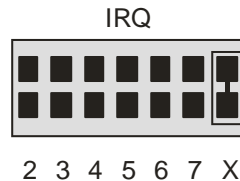

Figure 5. Interrupt level select jumper
In order to take advantage of high speed transfers, you must provide the board with an interrupt that is not used by other devices in your computer. Use the jumper block labeled IRQ (above the PC bus interface) to select an interrupt level between 2 and 7, or to disable interrupts (X). By default, the board is shipped with no interrupt level set (the jumper is in the 'X' position) – see Figure 5.